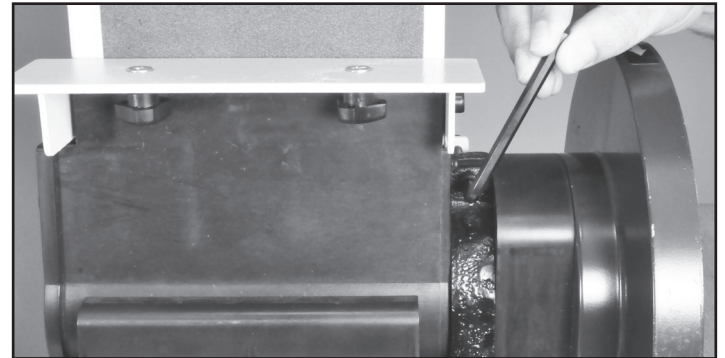

FIG. 12
1. Loosen the Hex Screw (#49) that pulls the split casting together. FIG. 12. This allow the sanding belt frame to be moved to the work angle desired.